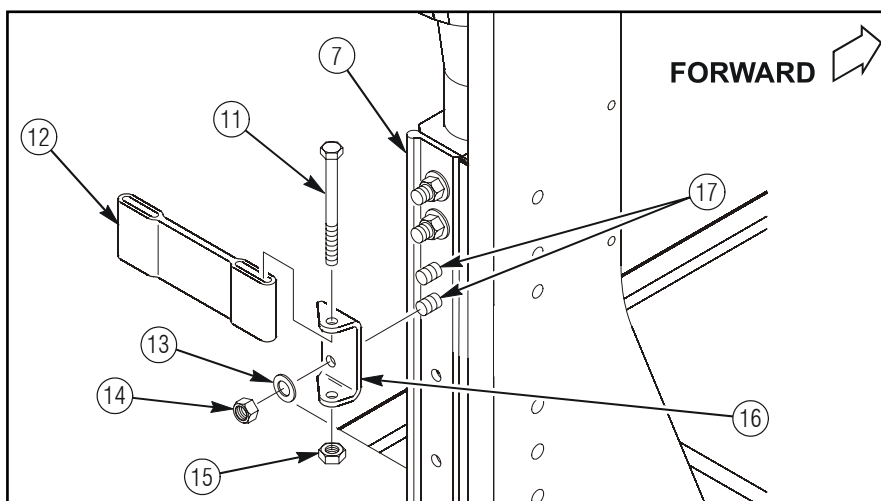

Figure 21a
26. Remove existing rear door safety strap bracket capscrews one at a time and replace with 4397000-050 capscrews (17). Refer to figure 21a.
27. Install 6435652-01M1 safety strap bracket (16) on two capscrews (17) and secure with two 4397005-013 washers (13) and 4397064-003 locknuts (14) as shown in figure 21a. Tighten locknuts (14) to 21 lb-ft (28.5 N·m).
28. Install 6435228-01M1 front door guide mount (5) on vehicle B-pillar (7) with two existing shims (6) (use additional 4668621-002
32. Install 6435262-01M1 rear door strap (12) in safety strap bracket (16) and secure with one 4397000-046 capscrew (11) and 4397064-003 locknut (15) as shown in figure 21a. Tighten locknut (15) until three or four threads of capscrew (11) are extended through locknut (15).